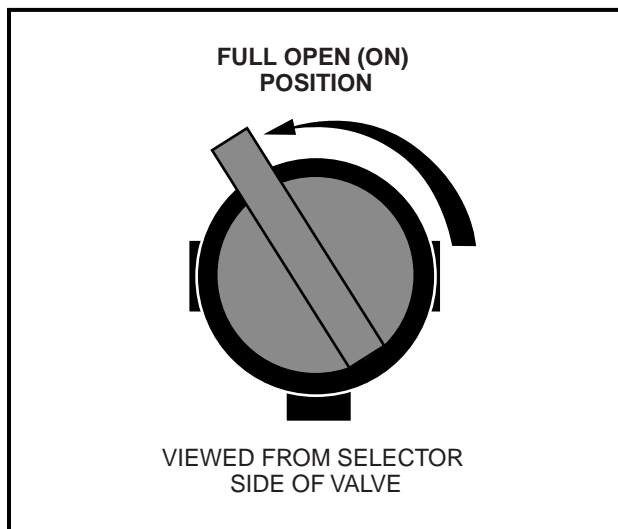

Figure 14-22 Open Fuel Shut-off Valve
5. Turn the fuel shut-off valve on top of the gas tank to the open (ON) position (**Figure 14-22, Page 14-26**).
11. Check to be sure the fuel shut-off valve on top of the gas tank is in the open (ON) position (**Figure 14-22, Page 14-26**).
The valve's open position differs from standard valve configurations. For the valve to be fully open, it must be turned approximately 120° from the closed (OFF) position (until it cannot be turned any further) **(Figure 14-22, Page 14-26)**. If the valve becomes partially closed, the engine will not run properly due to fuel starvation.